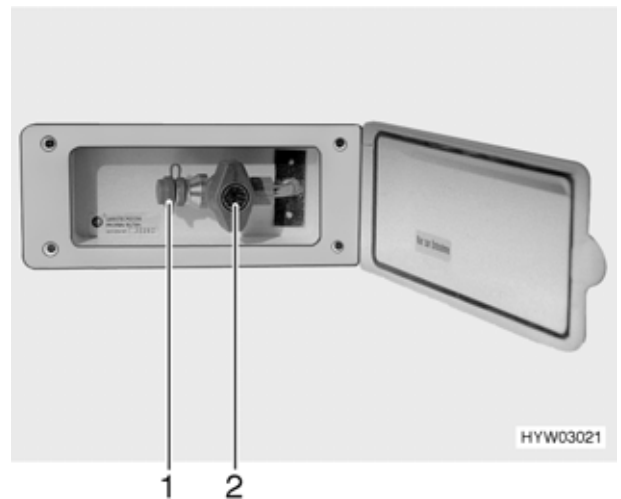

Fig. 104 External gas connection, stopcock closed
- ▶ If the external gas connection is not in use, always close the stopcock (Fig. 104,2).
- ▶ Once you have made the connection and opened the stopcock, make sure that no gas is escaping at the connection point (Fig. 104,1). If there is a leak in the external gas connection, gas will escape into the open air. Immediately close the stopcock and the regulator tap on the gas bottle. Have the external gas connection checked by an authorised specialist workshop.
The external gas connection (Fig. 104) is located at the front right, next to the gas bottle compartment.